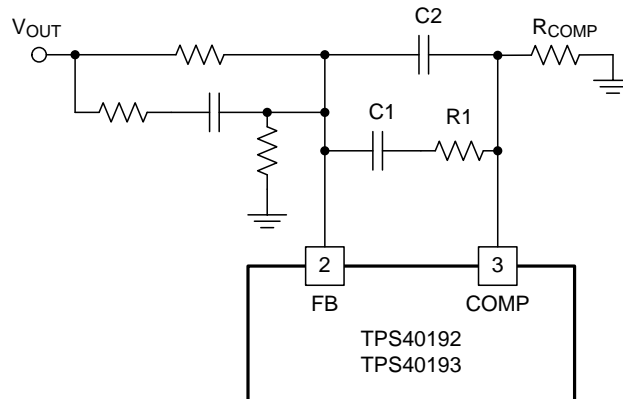

Figure 14. Short Circuit Threshold Feedback Network
- R1 and C1 are the values of the components in Figure 14
- (1)